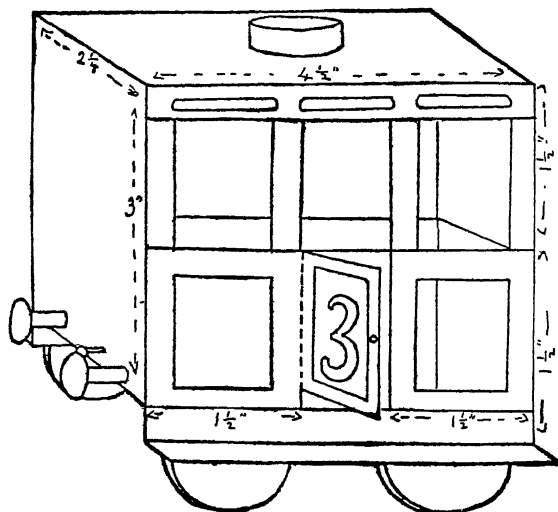

FIG. 237
(4) *A Carriage* (Fig. 237). The bottom is of wood, $4\frac{1}{2}$ inches by $2\frac{1}{4}$ inches. The carriage is made of cardboard, on the same principle as the cattle truck, according to the measurements given in Fig. 237. The upper part of the door may be cut out